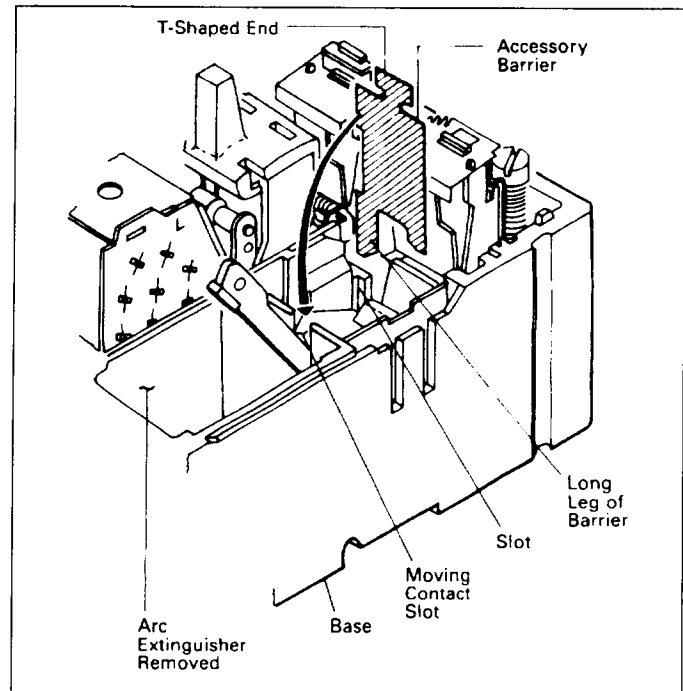

Fig. 2-5. Accessory Barrier Installation Position
- c. Slide accessory barrier into position between molded crossbar and trip bar. Long leg of barrier must go into slot in base. Bend barrier over and put T-shaped end into moving contact slot in base. (See Fig. 2-5.)